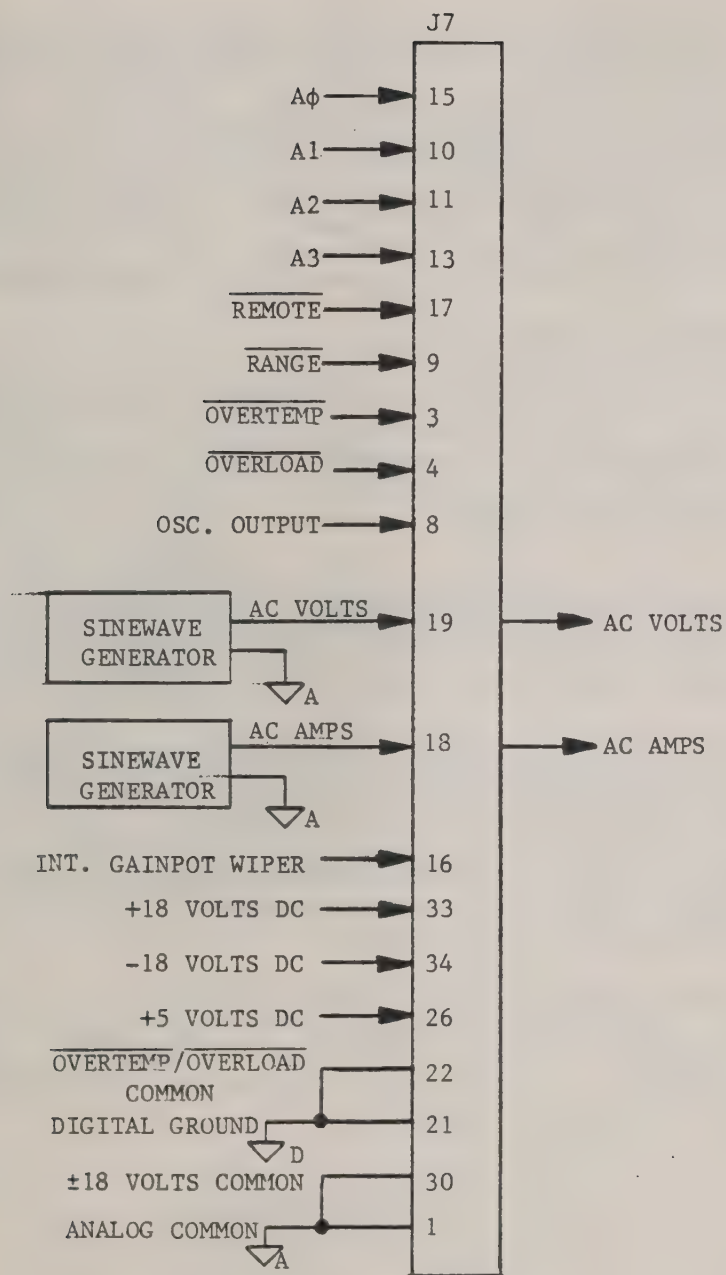

FIGURE 5.1. External Connections to the IMC1 Power Monitor
Apply ± 18 volts and +5 volts DC voltages to the Power Monitor per figure 5.1. Connect the two sine wave generators to the monitor per figure 5.1. One of the generators is used for "AC Volts" sense signal and one is used for "AC Amps" sense signal. Set the output of both to zero volts. Use a 1K pot in series with AC signal to the "AC Amps" input. This pot is to set the exact voltage signal equivalent of output current. Connect a 220K ohm resistor, 1/4W, 5% from TP5 to "A" ground. (Note the 220K ohm resistor is not required when IMC1 is calibrated in a power source containing an XP Power Controller with measurement option.)
Apply low logic (zero volts DC) to overtemp input of the monitor. (See figure 5.1). Verify that the indicator is turned on and stays on until the low logic is removed from the input.
Apply a low logic (zero volts DC) to overload input of the monitor. (See figure 5.1). Verify that the indicator is turned on and stays on until the low logic is removed from the input.
1. Apply a low logic (zero volts DC) to remote input of the monitor (See figure 5.1). Verify that all the front panel controls are disabled.
If not already accomplished, connect the Power Monitor per figure 5.1 and adjust low level and full scale readings on the display as described in section 5.5.